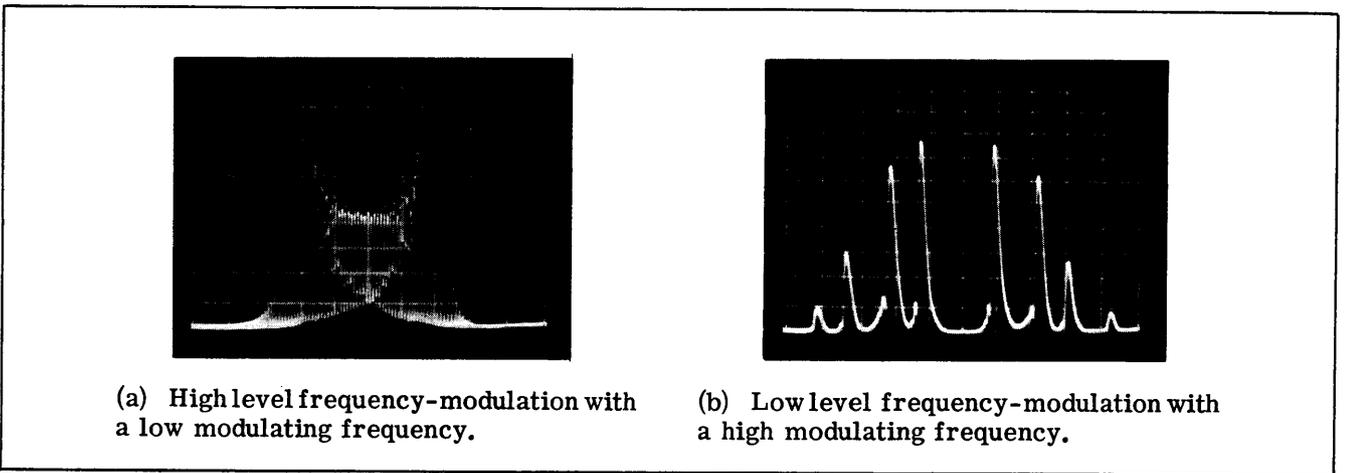

Figure III-8. Screen Presentations of Frequency-Modulated Signals.
h. Frequency modulated carriers appear as a series of vertical deflections (Figure III-8.a and b.)